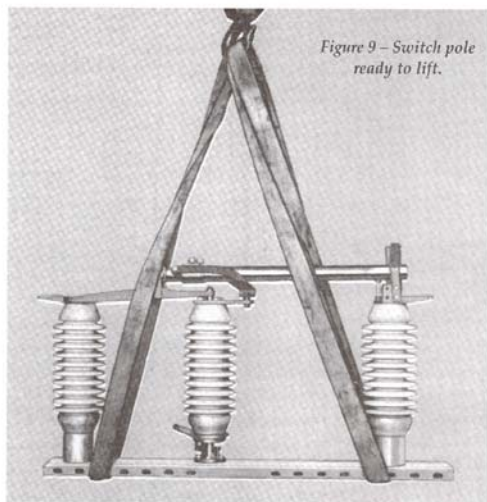

Figure 9 – Switch pole ready to lift.
A. CAUTION: Rigging used to lift switch poles should be attached to base! Lift poles onto structure, making sure the switch pole is in the closed and toggled position (Figure 9). It may be desirable to tie the fork to the strut to insure that the blade does not come open during lifting. Refer to the control arrangement drawing for proper placement of switch poles on structure.